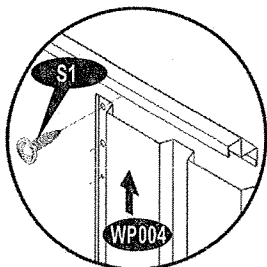

Fig. 5
4. Place wall panels (WP004 & WP006) and secure with (S1) screws on top & bottom. See fig. 5, 6, & 7.